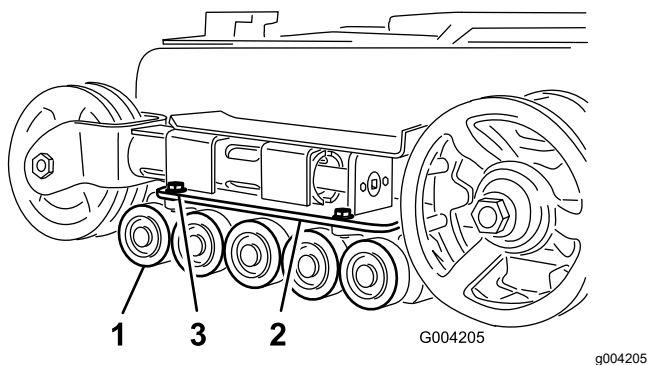

Figure 52
2. Remove the 4 bolts securing each lower track guide which contains the road wheels, and remove them (Figure 52).